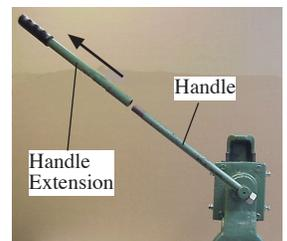

Figure 1. Press Handle
1. Take the Handle Extension off (see Figure 1). The force to make a crimp button form is small, and using a long handle could damage the button forms.